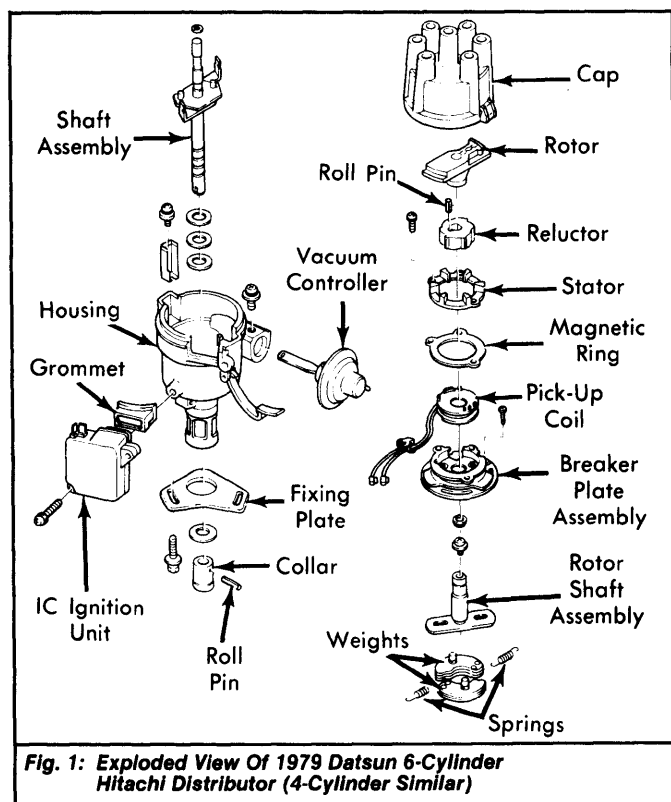

Fig. 1: Exploded View Of 1979 Datsun 6-Cylinder Hitachi Distributor (4-Cylinder Similar)
The Hitachi electronic distributor consists of housing, rotor and distributor cap. An Integrated Circuit (IC) ignition unit is used. A reluctor with one external tooth for each cylinder, is pinned to rotor shaft assembly. See Fig. 1. The reluctor turns inside stator. Stator is a metal ring with one internal tooth for each cylinder. See Fig. 1. The stator, magnetic ring and pick-up coil assembly are attached to breaker plate assembly.